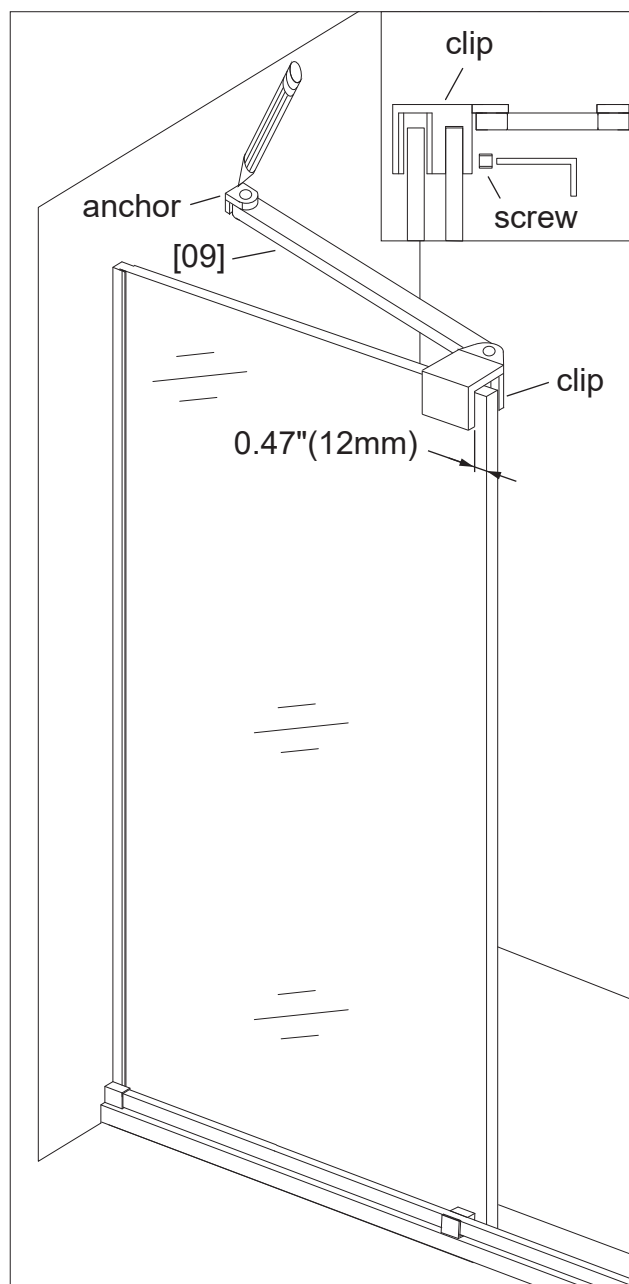

Fig 4.1
1. Remove the **Corner Protectors of Fixed Panel [15]** and install **Support Bar [09]** to the top of **Fixed Panel [15]**. (Fig 4.1)
2. Adjust the clip 0.47" away from the side of **Fixed Panel [15]** and tighten the **screws** to secure. (Fig 4.1)
3. Hold the **clip** and slightly push the **anchor** of **Support Bar [09]** to the wall. Mark the contour of **anchor** on the wall. Remove **Support Bar [09]** and remove the **anchor** from it. (Fig 4.1)